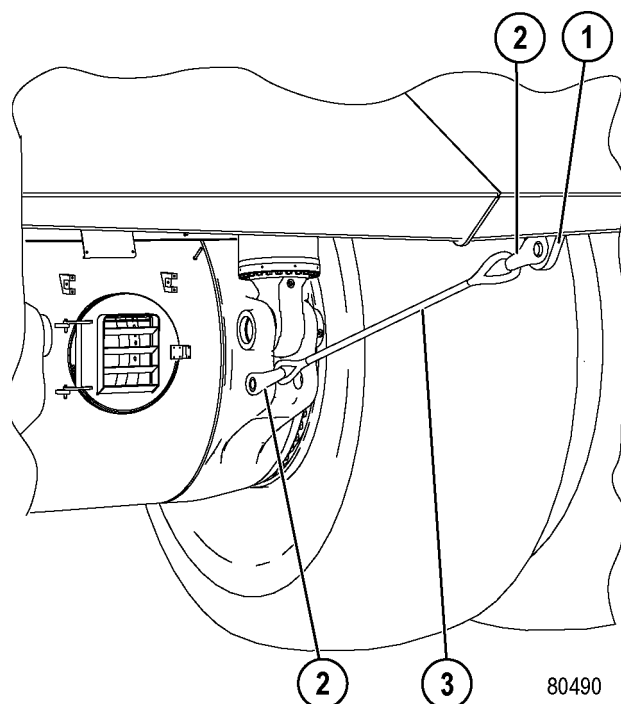

FIGURE 20-1. BODY RETENTINO SLING INSTALLATION
2. Install two shackles (2, Figure 20-1) and body retention sling (3) between rear body ear (1) and axle housing.